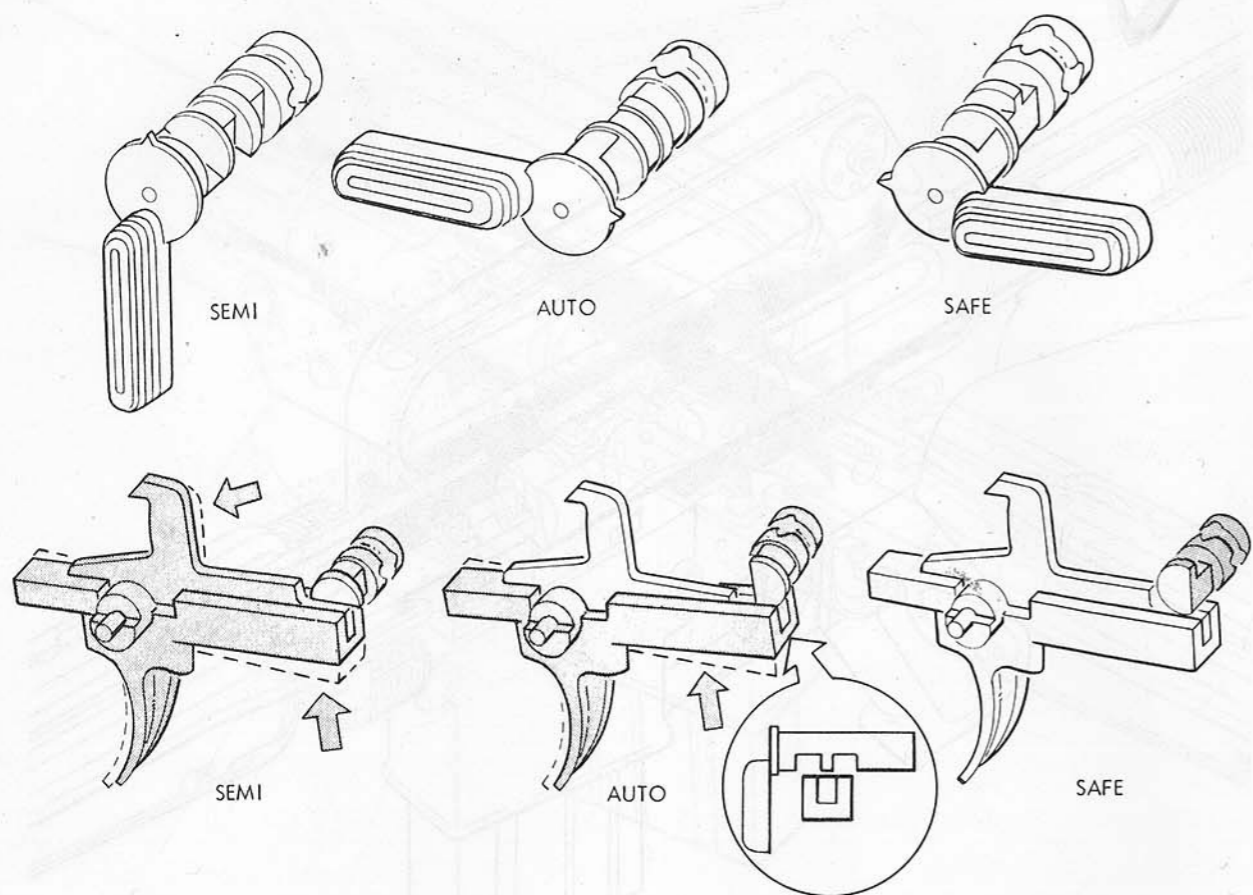

Figure 35. Safety selector lever.
- (b) As the rifleman pulls the trigger, the cycle of operation begins. As the bolt carrier recoils the hammer is cocked, but the center cam of the selector prevents the disconnect from engaging the hammer (fig. 35).